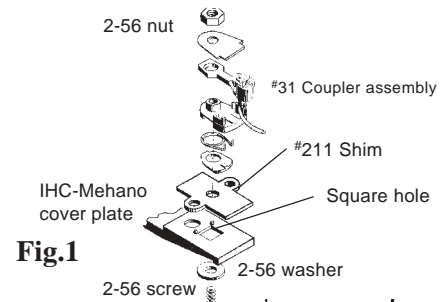

Fig.1
2. Assemble the #31 Coupler according to instructions with the Torsion Spring on the bottom and the Lid on the top. See Fig.1.